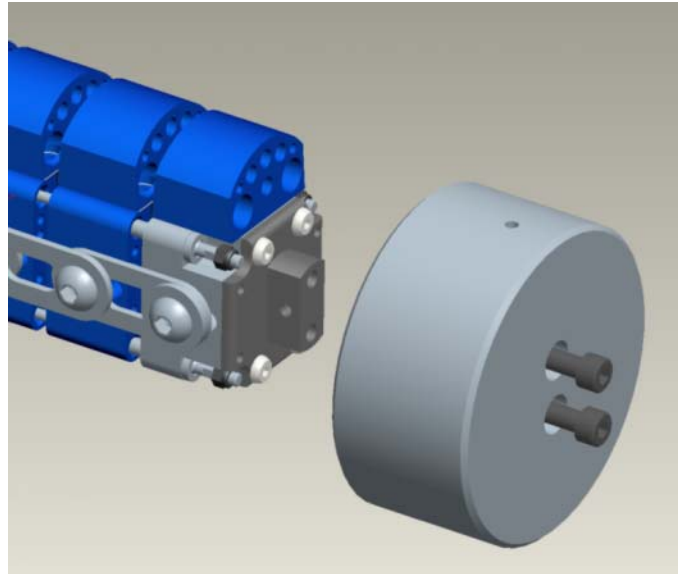

Figure 92 . Attaching Pendulum Ballast Weight
Step 8: Attach the ballast weight (Part Nr 133-8436) as shown in Figure 92 to the top of the femur using two M8 x 50 long cap head screws;